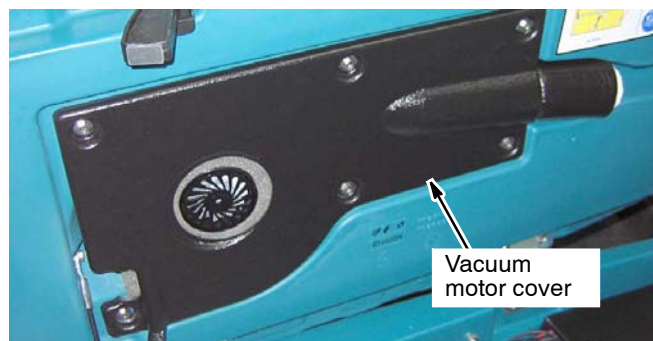

FIG. 5
6. Remove the vacuum motor cover (FIG. 5).